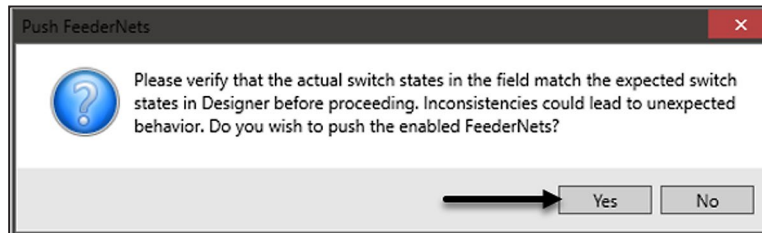

Figure 14. The Push FeederNets dialog box.
- STEP 2.** Push the IntelliTeam II system setpoint files by clicking on the **Push** button. A warning message will appear. See Figure 14. Make sure all devices have accurate switch states and then click on the **Yes** button to proceed.